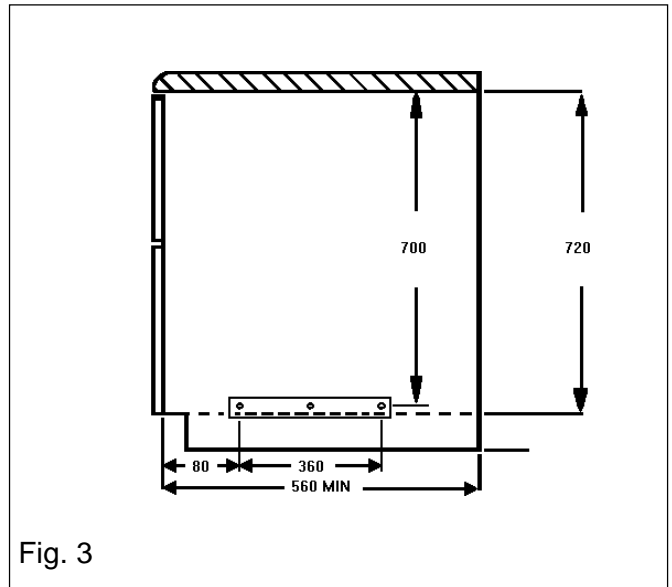

Fig. 3
- This appliance is designed to be fitted between cabinets with the recommended dimensions as shown in Fig. 3 & 4.